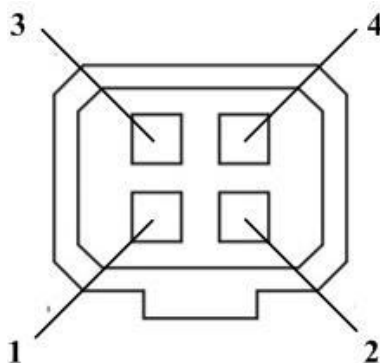

Figure 1-7 Auto-iris Interface
- The type of auto-iris interface is shown in Figure 1-7, and the definition of each pin is shown below: